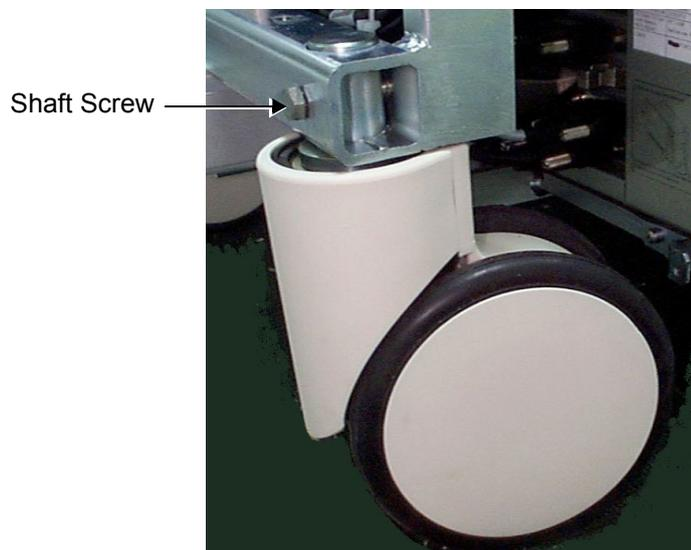

Figure 8-99 Rear Wheel Installation
- 3) Loosen the shaft screw (see Figure 8-99 on page 8-112) and remove the defective wheel from the machine chassis.
- 2) Tighten the shaft screw (see Figure 8-99 below), making sure the wheel is firmly secured.